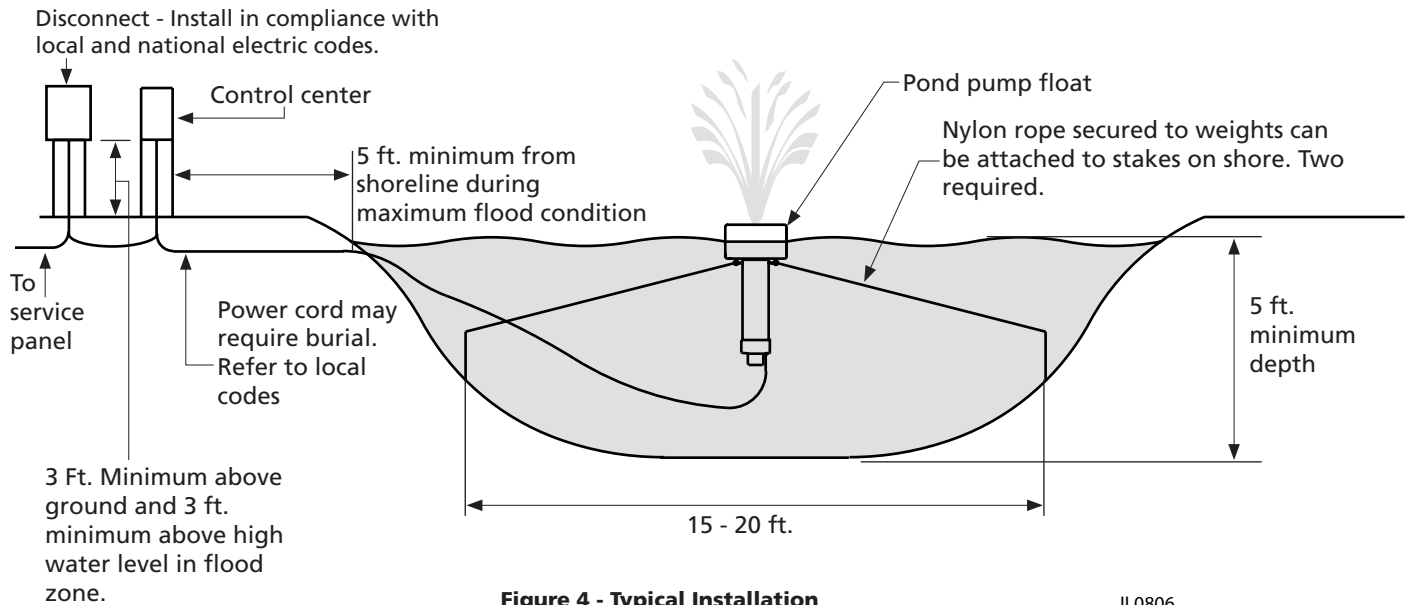

Figure 4 - Typical Installation
3. Install fountain in pond. (See Fig 4 for typical installation).
- 2. Control Center mounting location. (See fig. 4 for typical installation)